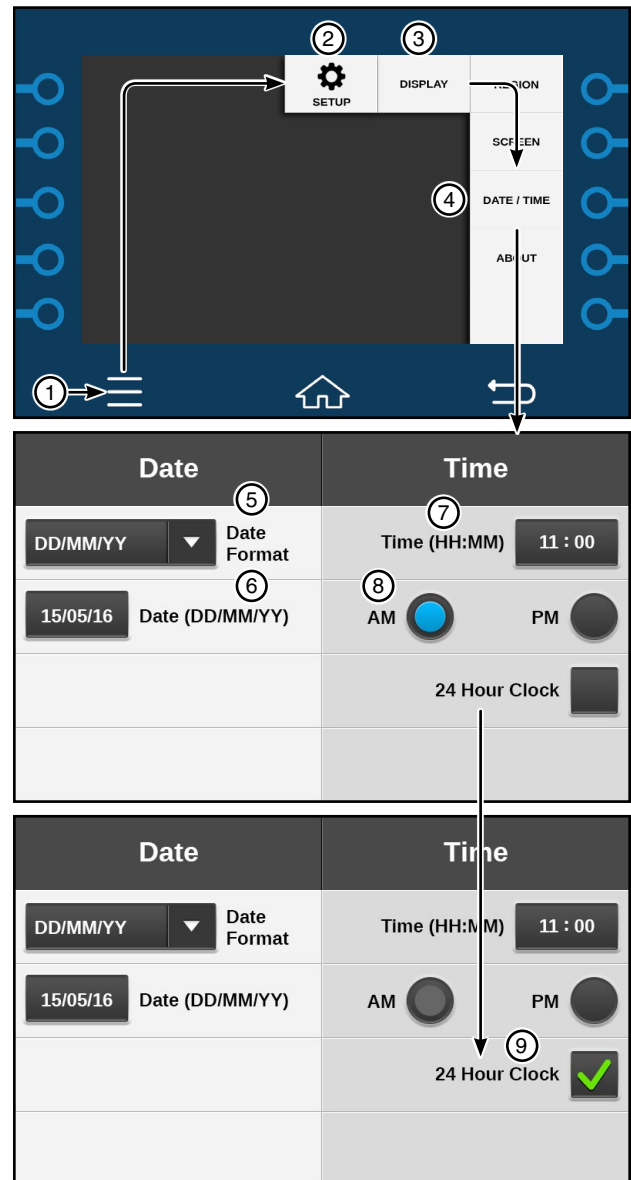

Figure 33-1
3. On the Date / Time screen you can set the Current Date and Time. See Figure 33-1.